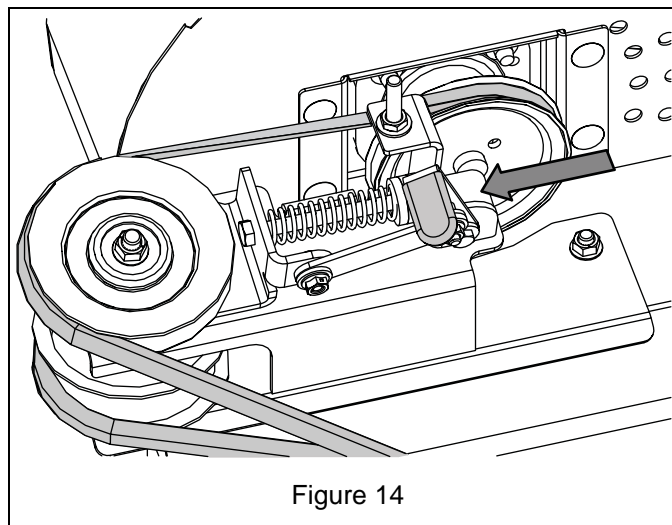

Figure 14
4. Rotate the idler assembly lever up and forward to place tension on the belt. See Figure 14.